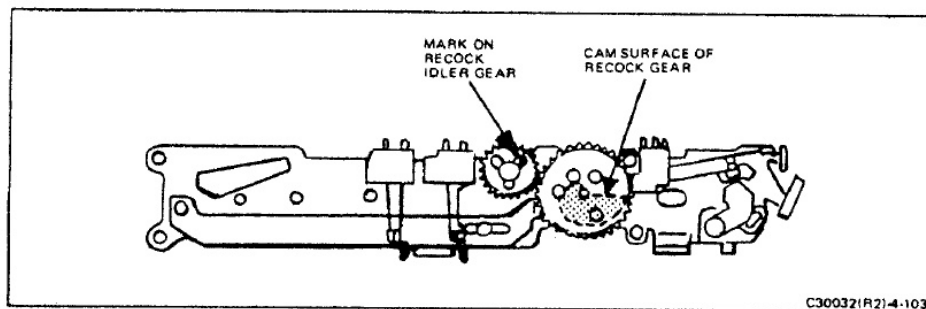

FIGURE 4-103 POSITIONING RECOCK IDLER GEAR AND RECOCK GEAR
- Using a pencil, mark one of the three points of the "Y" mold on the recock idler gear (see Figure 4-103).
- Install the recock idler gear on the outer plate so the pencil mark is at the two o'clock position (Figure 4-103). (Be sure the gear moves freely after the rivet is installed. Then, set the pencil mark at two o'clock again.)
- Install the recock gear so the flat surface of the cam under the gear is parallel with the long edge of the outer plate (Figure 4-103). Note that the cam is on the bottom when the cam is installed.